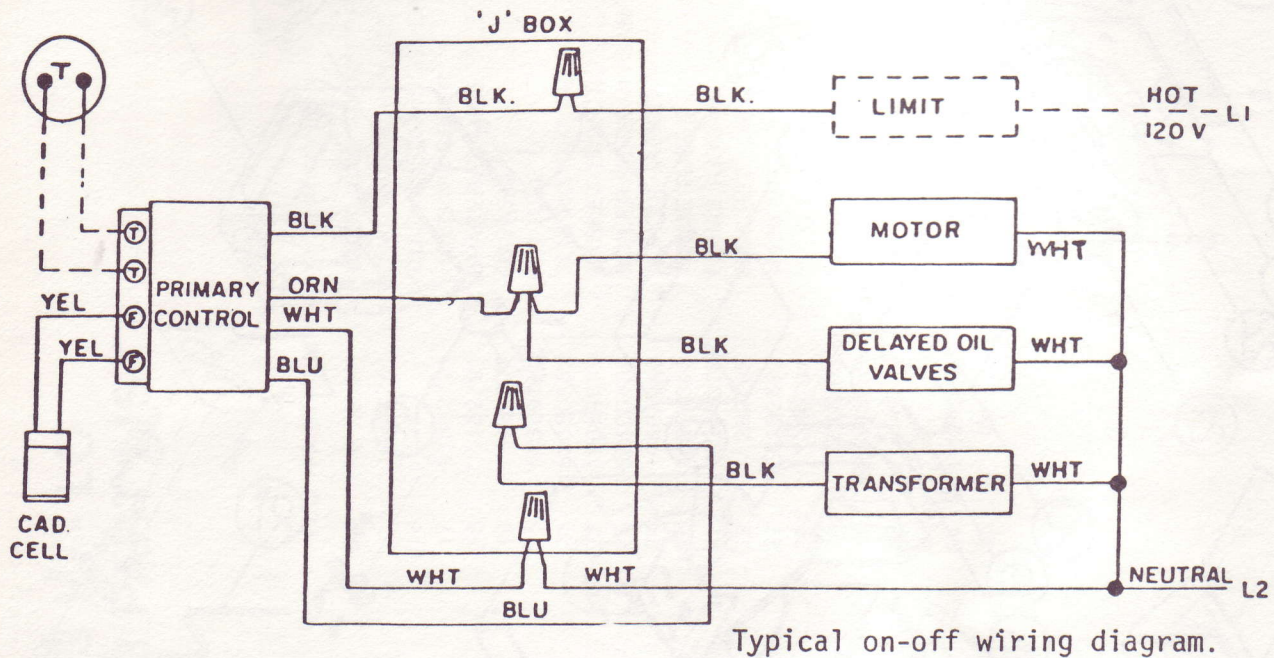

Fig. 7
- 12.2 Refer to the diagram supplied with the burner or controls. A typical on-off wiring schematic is enclosed for intermittent ignition on-off burner. See Fig. 7.